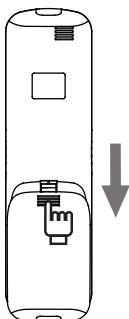

Figure 2.6
1) Slide to move the battery cover at the back of the remote controller in the direction indicated by the arrow (Figure 2.6);